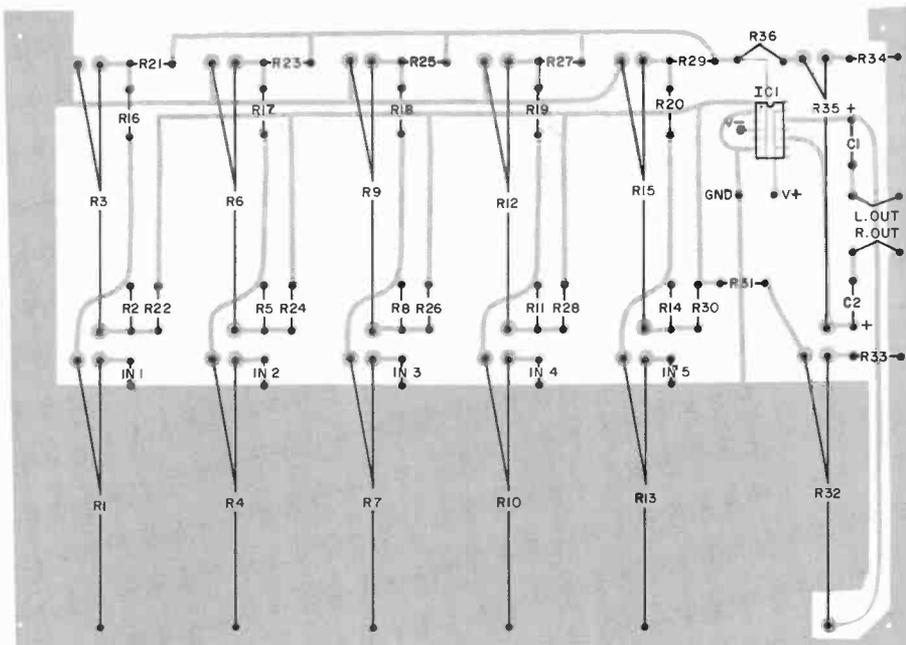

Fig. 2. The actual size etching and drilling guide for the printed circuit board is shown on the opposite page. Layout of components on the board is above.
**Construction.** "Panamix" is best assembled using a 10"  $\times$  7" (25.4  $\times$  17.8 cm) printed circuit board. Figure 2 shows the etching and drilling and parts placement guides. Start by inserting all fixed resistors and soldering them into place. Then insert and solder IC1, using an IC socket or Molex Soldercons, if desired.